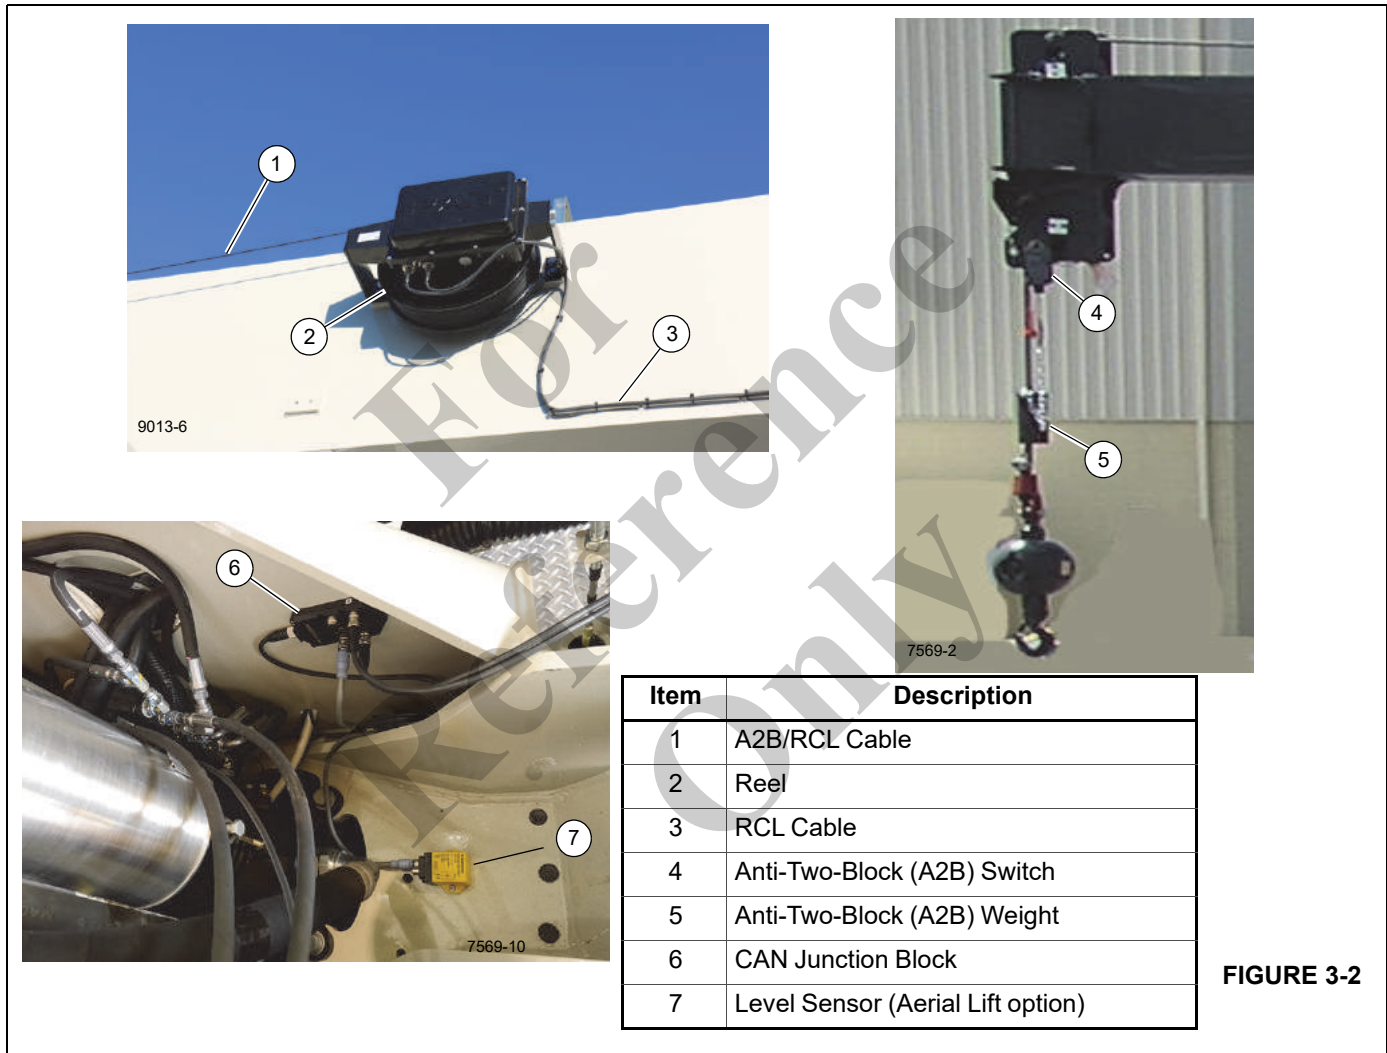

FIGURE 3-2
The boom A2B/RCL cable (1, Figure 3-2) runs from the A2B reel (2) through the boom and to the A2B switch assembly
(4). The A2B switch assembly cable is attached to the anti-two-block weight (5).
The RCL cable (3, Figure 3-2) runs from the bottom of the reel (2) to the end of the boom, then splits, with one cable (CAN cable) routed to the CAN junction block. A second cable routes from the RCL reel to the superstructure wire harness and transmits signals from the aerial lift foot switch (if equipped).